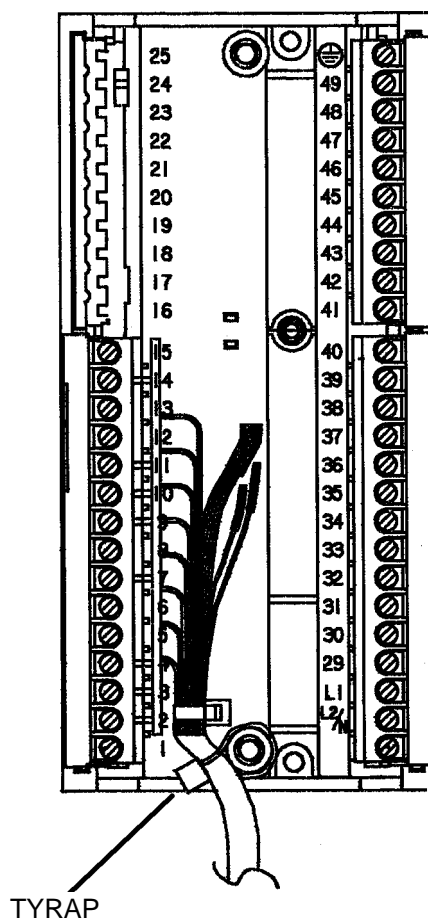

Figure 2. 2051R Direct Connect Cable Wiring (Cover Removed)
3. Insert the termination end of the direct connect cable into the lower left termination block as shown in Figure 2. With the cable facing down, the lowest pin of the terminator should be inserted in terminal position NO. 2. Tighten all termination screws on the associated pins of the terminator.
4. Dress the cable down and out the bottom of the termination assembly. Using the Tyrap provided, secure the cable to the termination cover post as shown in Figure 2.